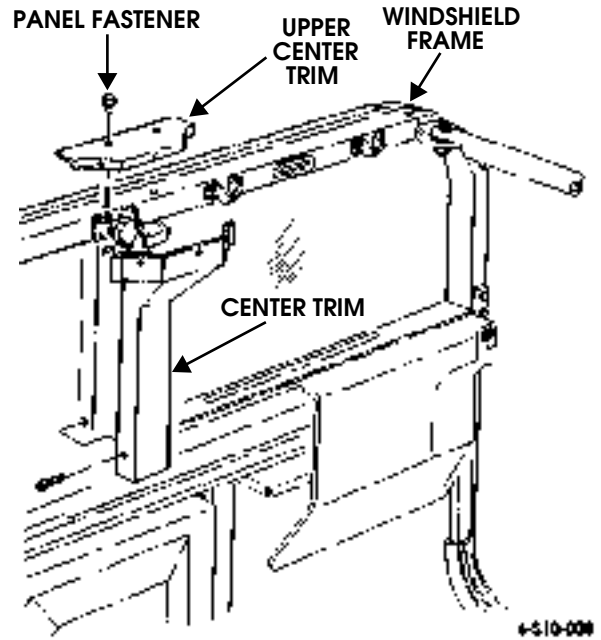

Figure 10-129: Interior Trim Replacement
8. Secure center trim to windshield frame with two screw and washer assemblies (Figure 10-129).